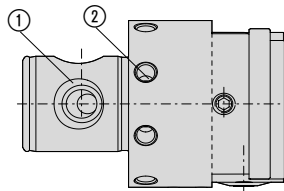

Fig. 1
- On the machine side, the precision boring tool is fitted with a Wohlhaupter **MSB**® connection ① (Fig. 1).
- Manual balancing is possible using the threaded holes ② mounted on the tool body.